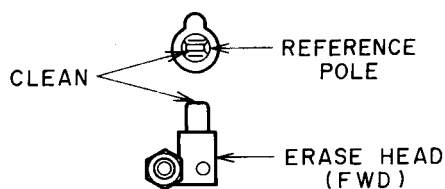

Fig. 7-2
**NOTE:** Clean the Reference Pole and the Erase Head (FWD side), before this adjustment. (Refer to Fig. 7-2)